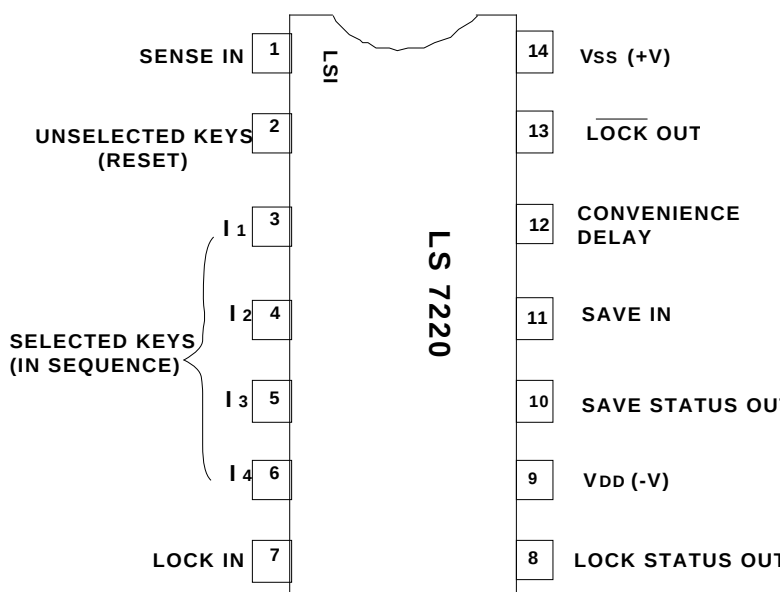

FIGURE 1.
- 14 Pin Plastic DIP (See Figure 1)